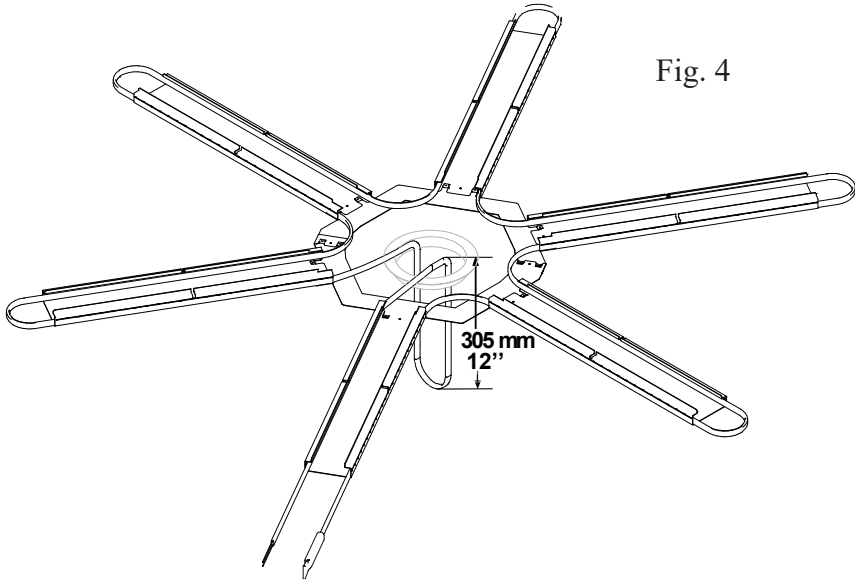
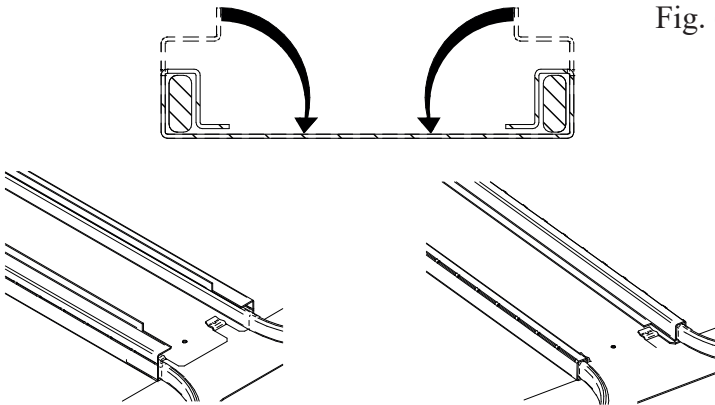

Fig. 4
Fig. 6
- 4- Insert the self-regulating heating cable into the first of 6 blades (Fig. 4) and bend one edge at a time to secure the cable (Fig 6). Do not bend the edge all the way to allow for adjustments with the self-regulating heating cable as needed.
Perform a round trip with the self-regulating heating cable (Fig. 4) and penetrate at least 12 in. (305 mm) inside the roof drain.